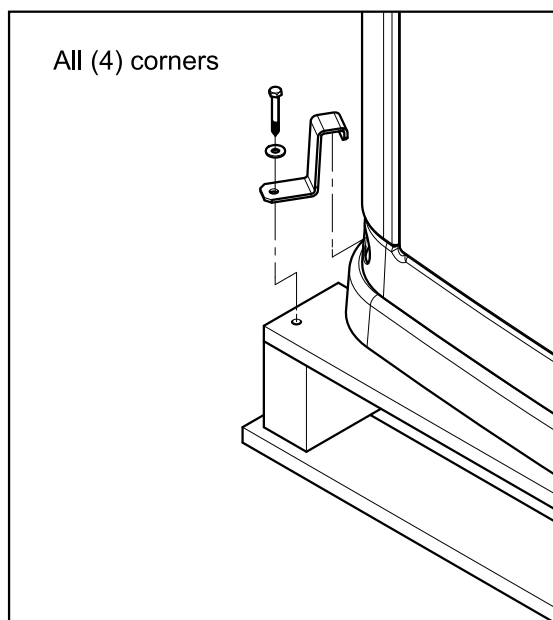

Figure 1
Step 1.) Once the generator has been unpackaged, remove the shipping brackets holding the generator to the shipping pallet. (See figure 1)